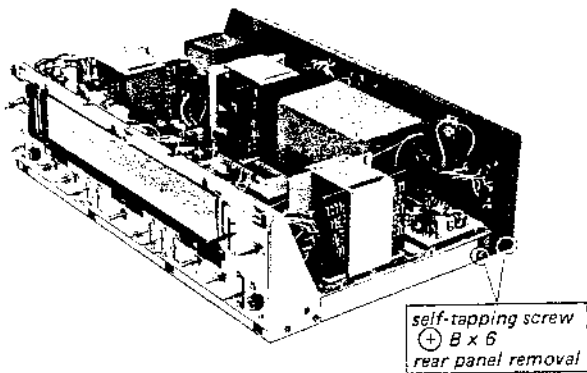
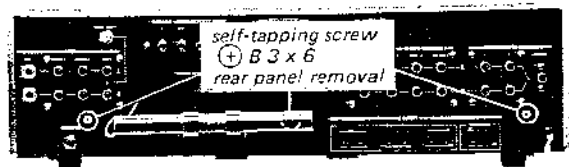

Fig. 2-12. Rear panel removal
Fig. 2-13. Rear panel removal
1. Remove the two self-tapping screws at both sides as shown in Fig. 2-12. Remove the three screws securing the rear panel to the chassis as shown in Fig. 2-13. This frees the rear panel.